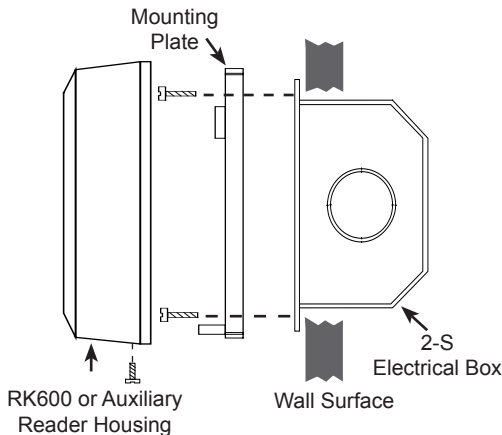

Figure 4 - Basic Installation
1. Orient the mounting plate with the threaded insert at the bottom; attach it to a single-gang electrical box with two 6-32 x 1/2” screws (supplied); or attach directly to the wall surface, using anchor screws or toggle bolts (Figure 4).